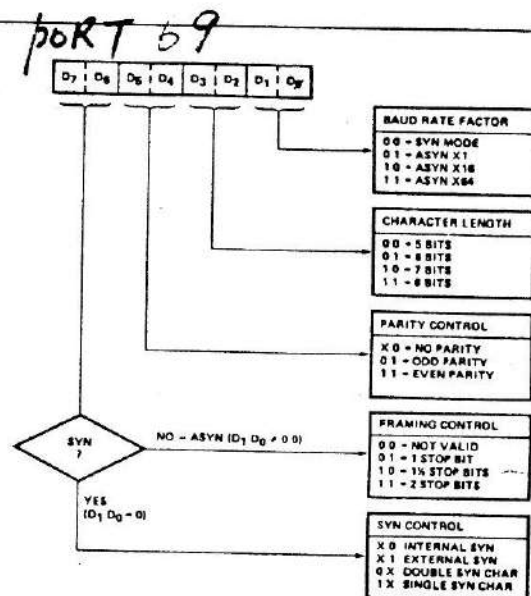

Figure 5. Mode Instruction Format
register. The mode control register is loaded by the first control output ($C/\bar{D}=1$, $RD=1$, $WR=0$, $\overline{CS}=0$) following a reset. The format of the mode control instruction is shown in Figure 5. The instruction can be considered as four 2-bit fields. The first 2-bit field ($D_1 D_0$) determines whether the USART is to operate in the synchronous (00) or asynchronous mode. In the asynchronous mode this field also controls the clock scaling factor. As an example, if D_1 and D_0 are both ones, the RxC and TxC will be divided by 64 to establish the baud rate. The second field, D_3-D_2 , determines the number of data bits in the character and the third, D_5-D_4 , controls parity generation. Note that the parity bit (if enabled) is added to the data bits and is not considered as part of them when setting up the character length. As an example, standard ASCII transmission, which is seven data bits plus even parity, would be specified as: